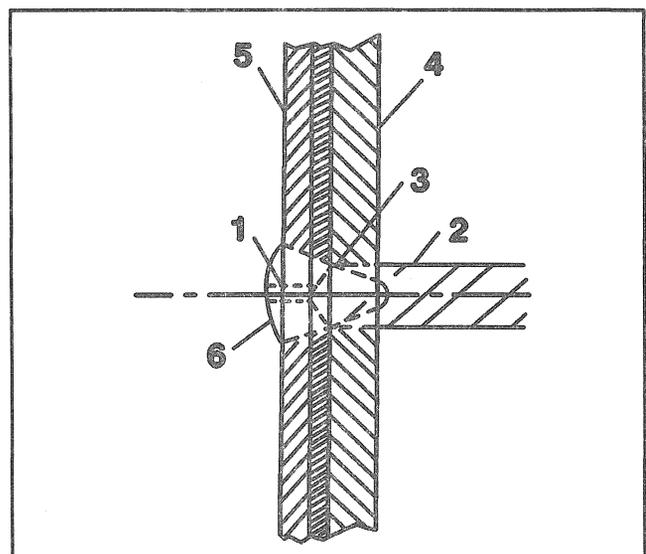

Figure 16—Drilling out Spot Welds
- C. Drill a 3-mm (1/8-inch) pilot hole (1) through the welds (6) deep enough to penetrate the hinge base (3) only (Figure 16).
- D. Drill a 13 mm (1/2 inch) hole (2) through the hinge base (4) only using the smaller hole (1) as a pilot (Figure 16).